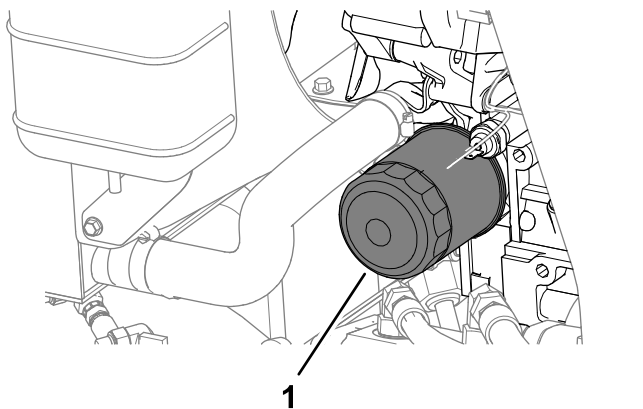

Figure 69
4. Remove the oil filter (Figure 69).